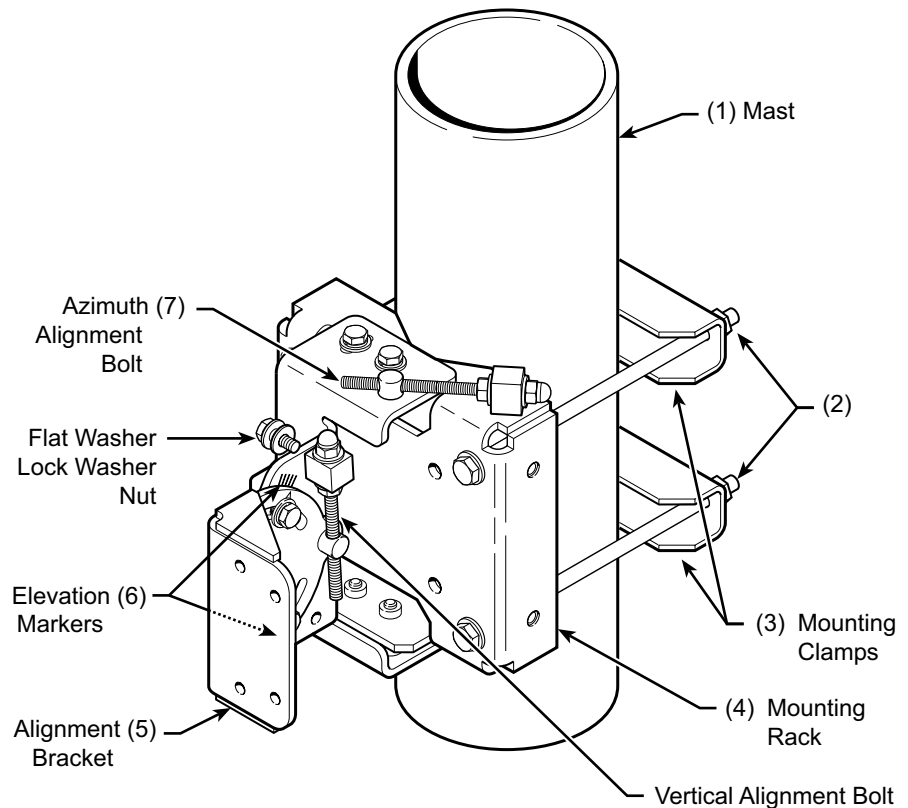

Figure 6-1. CPE Pole Mount Assembly
1. Attach the ODU mounting bracket to a mast between 2- and 4-inches in diameter (1 in Figure 6-1).
2. Remove the nuts and washers (2 in Figure 6-1) from one side of each of the two mounting clamps (3) and slide the mounting clamps off the bolts. Set them aside in a safe place.
3. Slip the mounting rack (4 in Figure 6-1) around the mast.